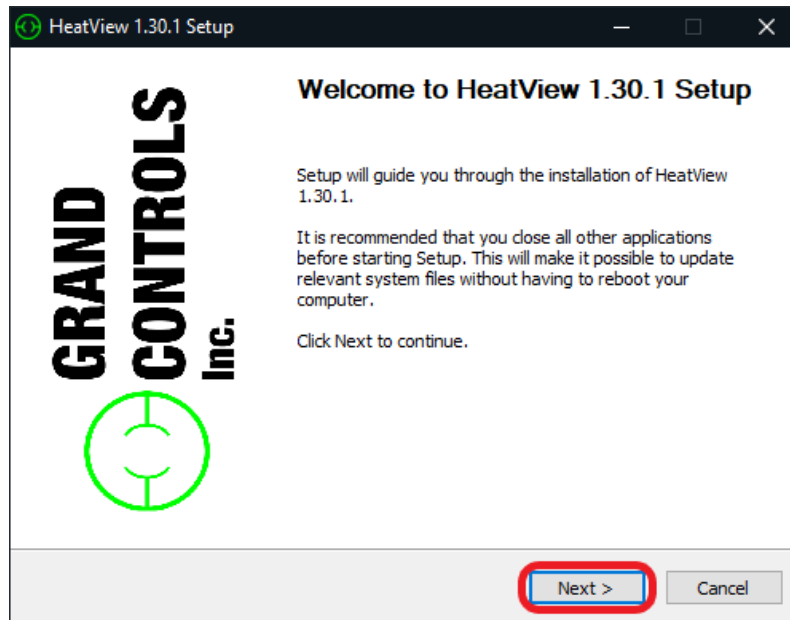

Figure 5: Installation - Welcome Screen
3. To continue the installation, you must click 'Next >' – as highlighted in Figure 5 below.